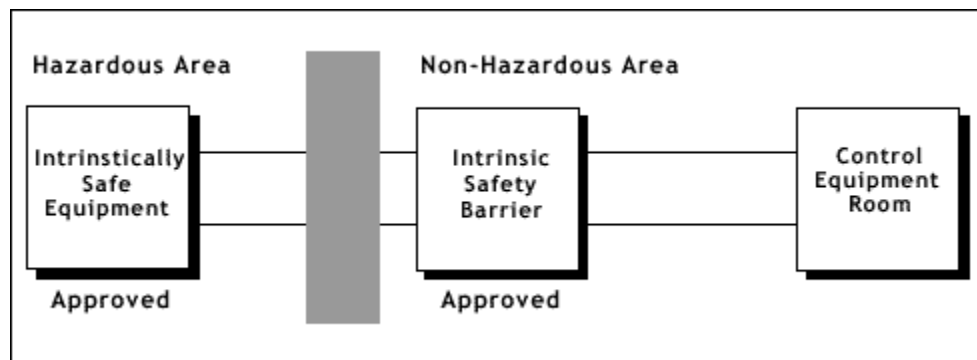

Figure 5
2. Remove the back cover plate to gain access to the reed switches. Loosen the 2 adjustment clamp screws to the point where when moving the reed switches there is some resistance. Refer to figure 5 for details.